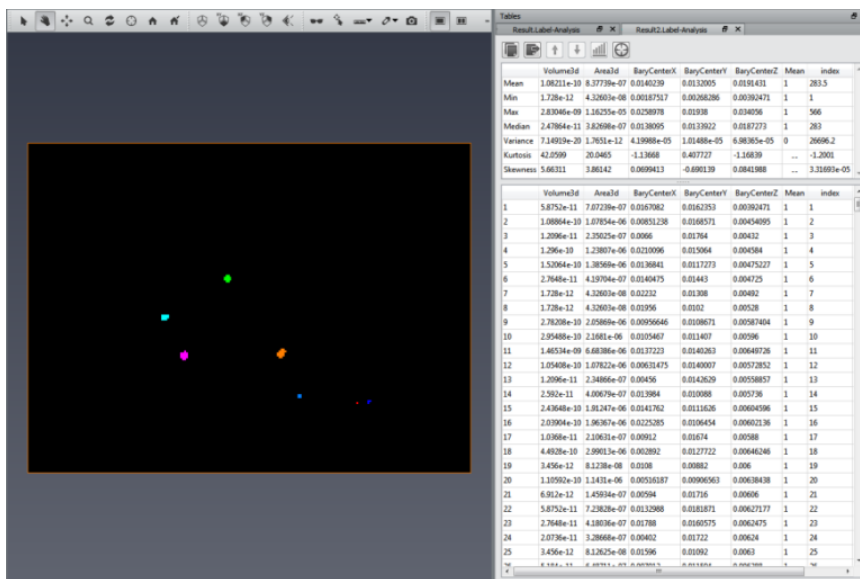

Figure 5.9: Chocolate Bar Bubble Statistics
- Play the recipe on the `chocolate-bar.am`. The recipe will compute statistics as shown in Figure 5.9.